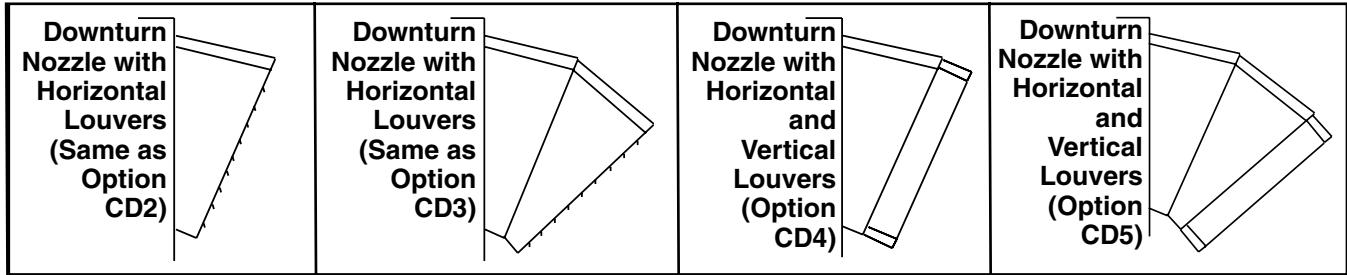

Figure 37. Downturn Discharge Nozzle Options
- Downturn discharge nozzle (refer to Figure 37 and Table 56) is optional on PDH, SDH, SHH, and PXH models without a hot water coil: